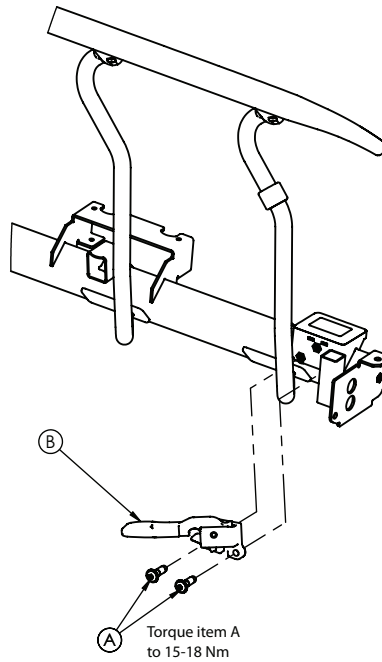

Figure 15 – Siderail latch replacement
3. Use a T40 Torx driver to remove and discard the two torx head machine screws (A) that hold the siderail latch (B) to the litter frame and remove the latch (Figure 15).